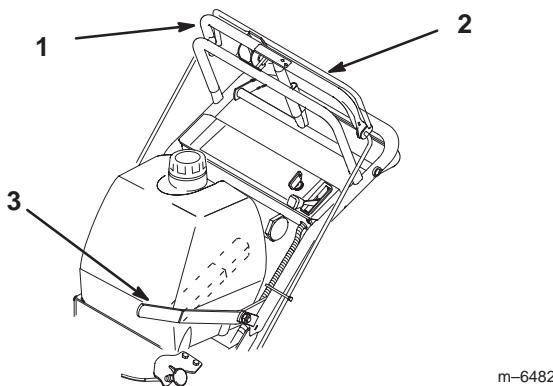

Figure 19
1. Pull on the upper control bar to stop the machine (Fig. 19).
2. Hold the bail against the upper control bar (Fig. 19).
- To engage blade(s), push the blade control lever firmly forward, until it latches over-center (Fig. 19).
- To disengage the blade(s), pull blade control lever rearward, all the way (Fig. 19).